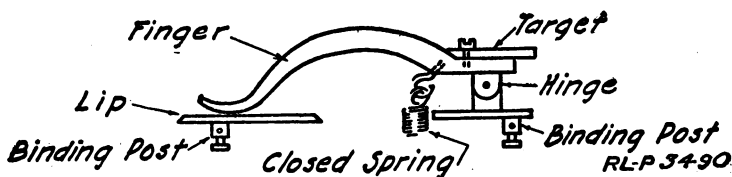

Fig. 43.—Single spring jack
(See Figs. 43, 44, and 45.)
*h.* When there is more than one table, an extra jack (Fig. 43) is used as "trunking" connection. A pair of wires should extend from Table No. 1 to each other table. That is, if there are three tables, there should be one pair from tables Nos. 1 to 2 and another from Nos. 1 to 3, and also a pair from Nos. 2 to 3. No matter how many tables there are, there should be a direct pair between any two tables.